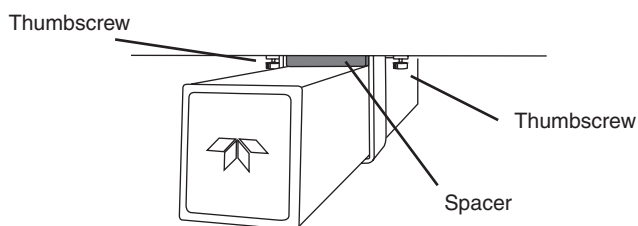

Figure 2-1 Remove arm stowing bracket and spacer
1. Loosen the bracket's two thumbscrews along the sides of the arm (Figure 2-1).